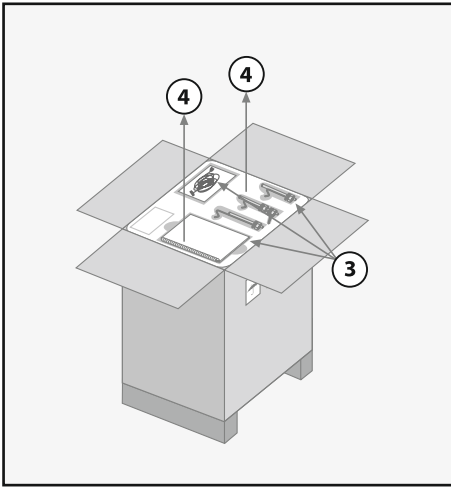

Figure 2.6: Remove the parts and the protective foam.
3. Open the carton and remove the parts (power cord, bag hangers) from the protective foam (see Figure 2.6).